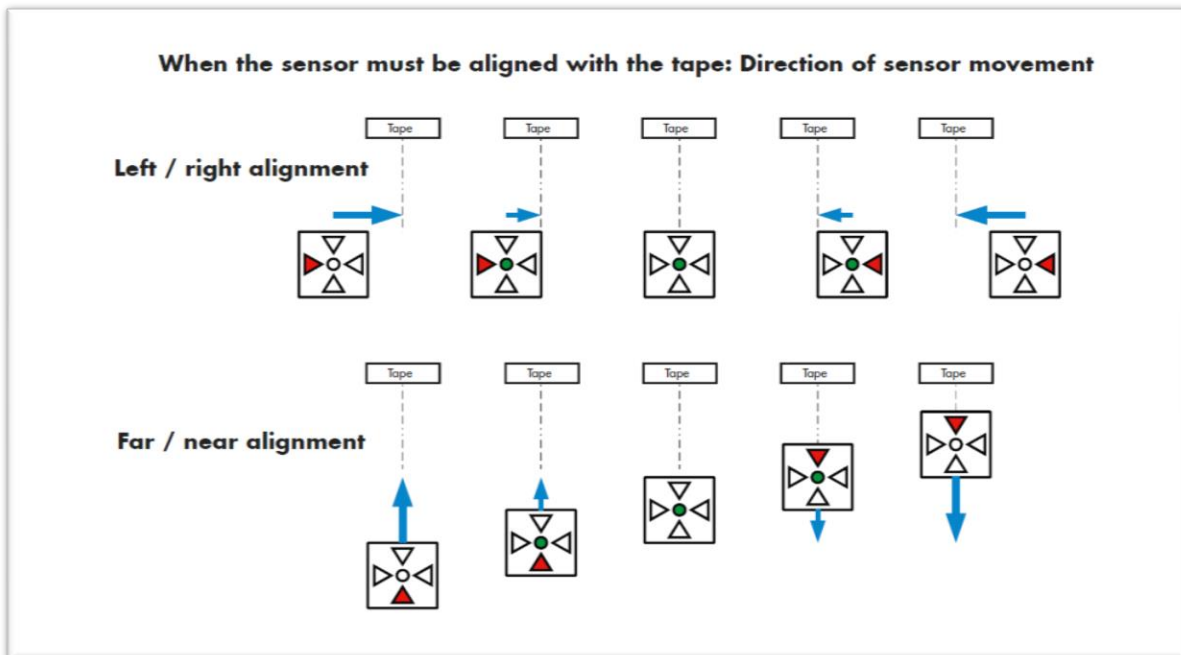

Figure E.1.9: Camera Sensor Alignment
- Make the fine adjustment of the camera using the LED's on top the camera, adjust the camera position so only the green light in the middle of the 4 red arrows is on, manipulate per adjustments shown in Figure E.1.9 below.